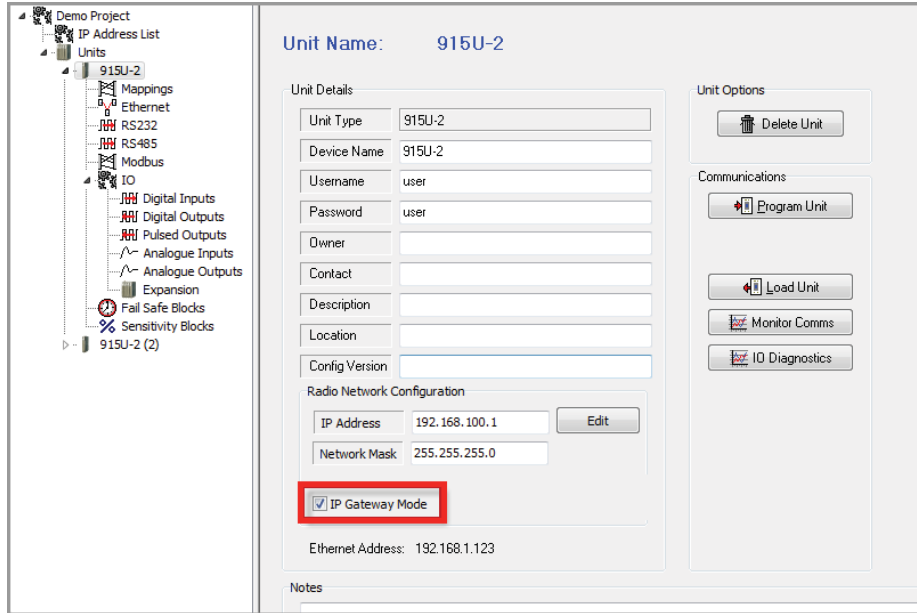

Figure 105 IP Gateway Mode
- b. Select the IP Gateway Mode checkbox (see Figure 105).